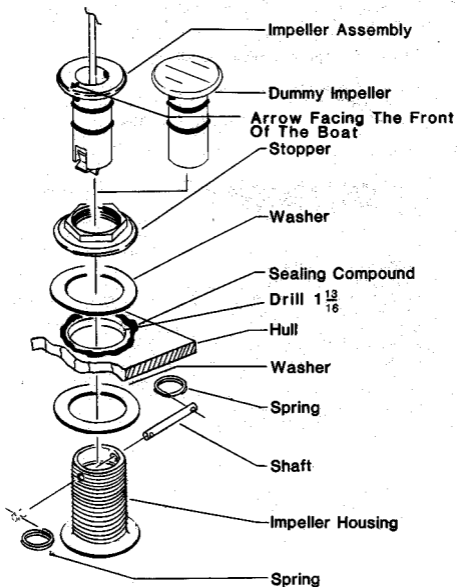

FIGURE 4. SL-1 IMPELLER EXPLODED PARTS VIEW
6. Reassemble the impeller as shown in Figure 4, making sure that sealing compound and a washer is on both sides of the hull.